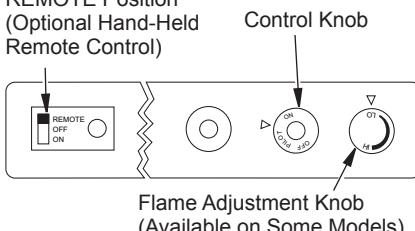

Figure 5 - Setting the Selector Switch, Control Knob and Flame Adjustment Knob (Available on Some Models) for Hand-Held Remote Operation
1. After lighting, let pilot flame burn for about one minute. Turn control knob to ON position. Adjust flame adjustment knob anywhere between HI and LO. Slide the selector switch to the REMOTE position (see Figure 5).